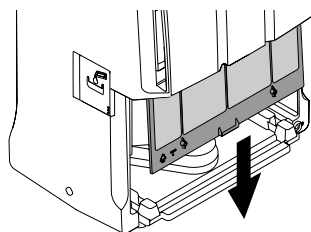

Fig. 6
- Once the tank has been taken out, remove the filter by pulling it downwards (fig. 6).